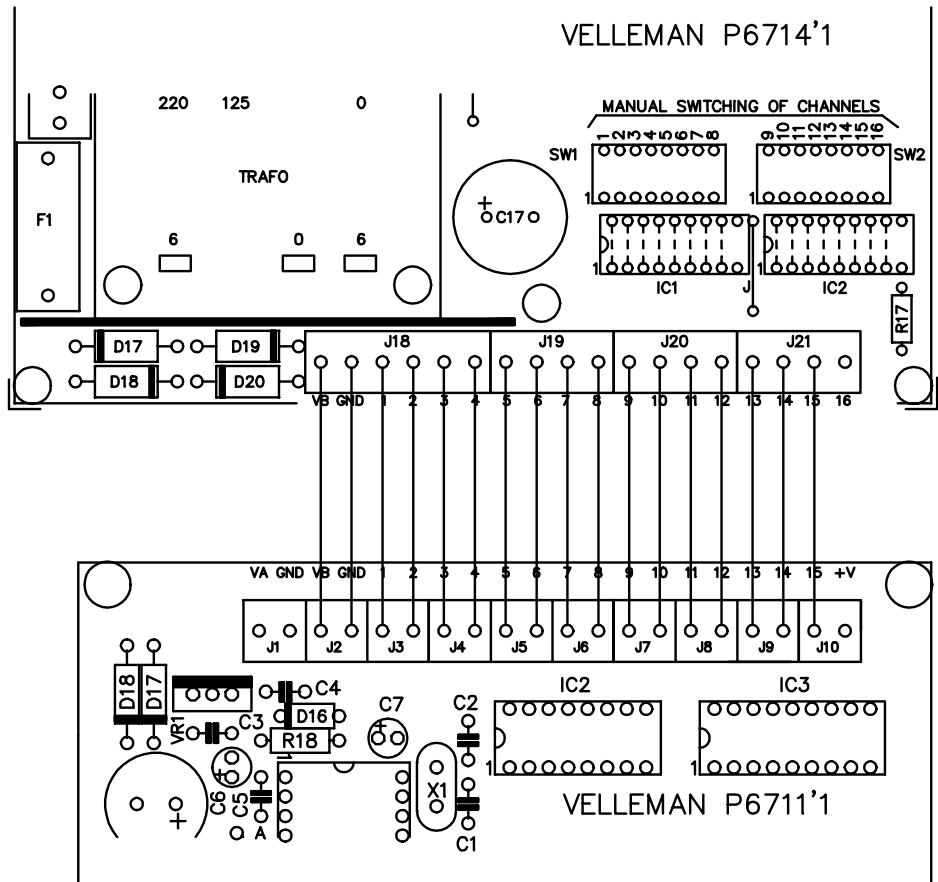

FIG 1.0
1. Connect the board to the 15 channel receiver K6711 (see Fig. 1.0)